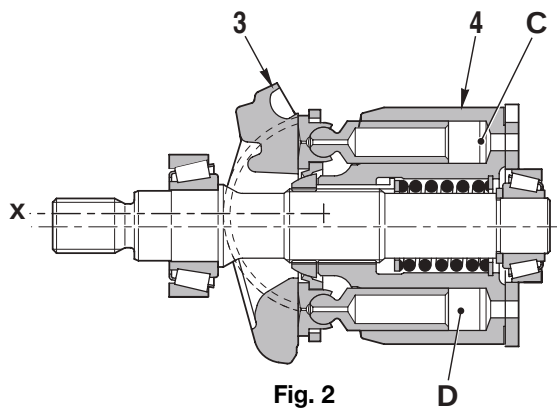

Fig. 2
- 3 - When the axis X of the swash plate (3) is parallel to the axis of the cylinder block (4) (swash plate angle « α »=0), the difference between the volumes C and D inside the cylinder block (6) is zero and no oil is pumped (Fig. 2). (In reality, the swash plate angle « α » is never truly equal to 0).
- At a given rotation speed input, the required oil flow is controlled by the angle « α » between the swash plate (3) and the shaft (1). The swash plate (3) is inclined by the springs (10). Against the spring works the control piston (8). The position of the control piston (8) defines the angle « α ».